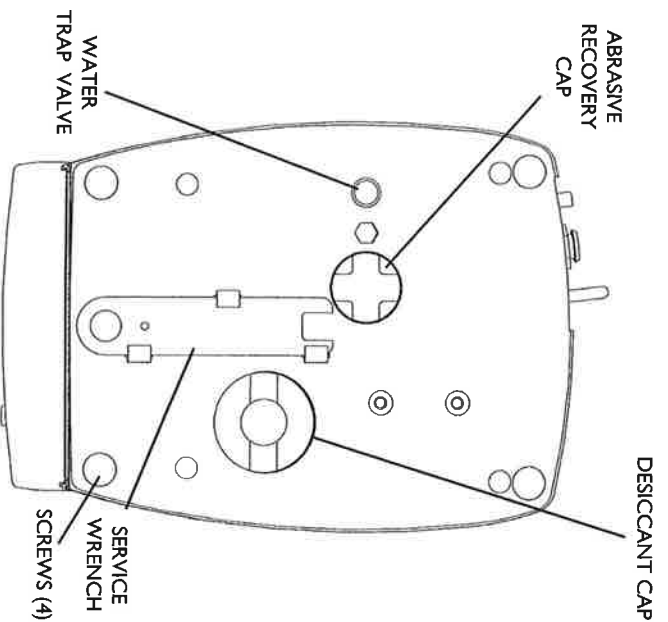
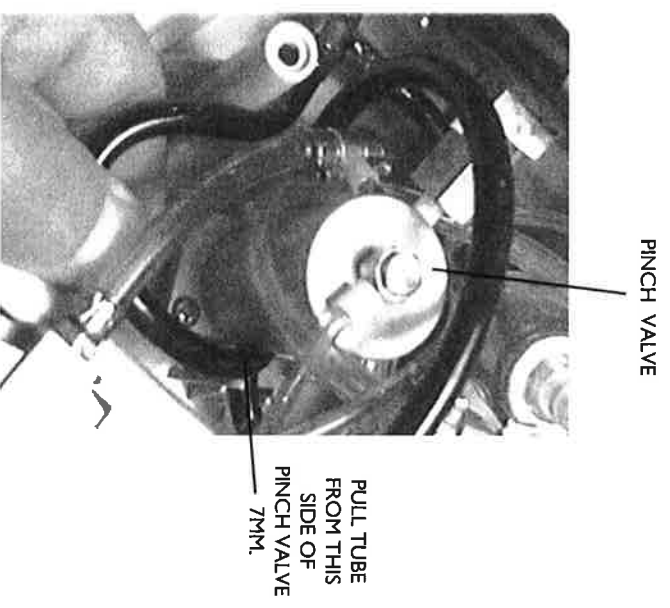

Figure 4.3
Figure 4.4
- A. Desiccant chamber:** Inspect the desiccant granules through the view window located in the bottom of the unit (see Fig. 4.3). The orange indicator granules will turn green when contaminated. Replace with new desiccant if necessary. Use the Service Wrench to unscrew and to replace the cap. Clean 'o' ring and threads before replacing. Do not over tighten.
- C. Waste Powder Chamber:** Unscrew the Abrasive Recovery Cap (see Fig. 4.3) using the Service Wrench. Remove any abrasive from the chamber, clean the threads and replace the cap. Do not over tighten.
- D. Moisture trap:** Very minimal, or no moisture should be found. While the PrepStart is pressurized and held in a horizontal position, depress the trap stem (see Fig. 4.3) with a finger tip; compressed air, and any moisture will be expelled. If more than a few drops of moisture are found, additional water traps and filtration, may be necessary.
3. Remove the four Phillips head screws in the underside of the PrepStart (see Fig. 4.3).
5. The pinch valve is an aluminum cylinder near the outlet port (see Fig. 4.4). Two black plastic tubes passing through (see Fig. 4.3) the cylinder are the pinch tubes. The pinch spot is renewed by pulling both tubes with pliers, about 7mm toward the rear of unit.